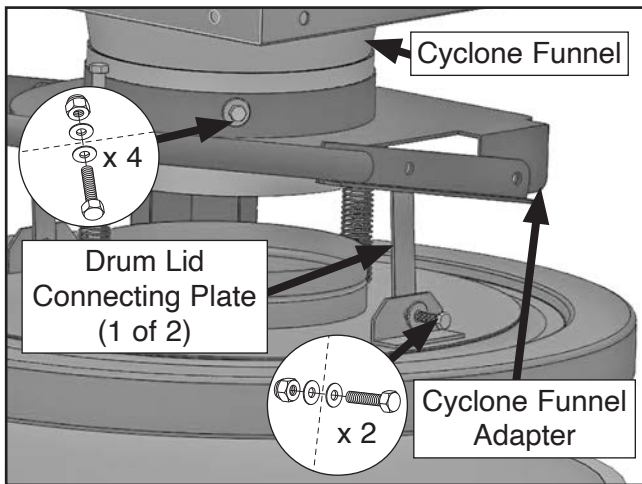

Figure 32. Cyclone funnel attached to adapter and drum lid connecting plates installed on drum lid.
32. Align mounting holes of cyclone funnel and cyclone funnel adapter then attach with (4) $\frac{3}{8}$ "-16 x 1" hex bolts, (8) $\frac{3}{8}$ " thin flat washers, and (4) $\frac{3}{8}$ "-16 lock nuts (see **Figure 32**).
33. Install drum lid connecting plates using (2) $\frac{3}{8}$ "-16 x 1" hex bolts, (4) $\frac{3}{8}$ " flat washers, and (2) $\frac{3}{8}$ "-16 lock nuts (see **Figure 32**).